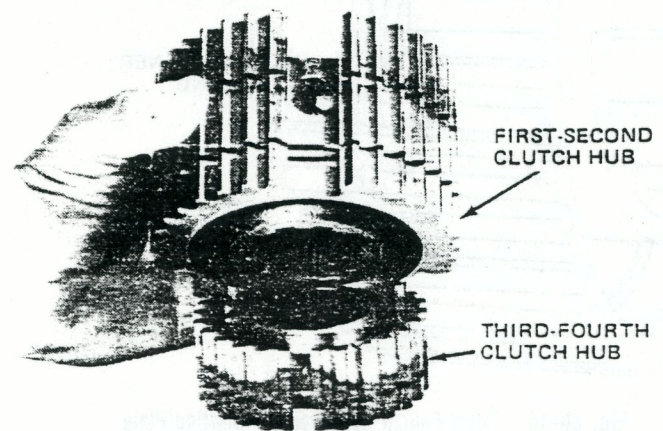

Fig. 2B-44 Supporting First-Second Clutch Hub
(3) Position first-second clutch hub on top of third-fourth hub so lock ball holes in first-second hub are in uppermost position (fig. 2B-44).
(4) Align scribe marks on first-second hub and sleeve and install sleeve on hub (fig. 2B-45). Allow sleeve to bottom against work bench.